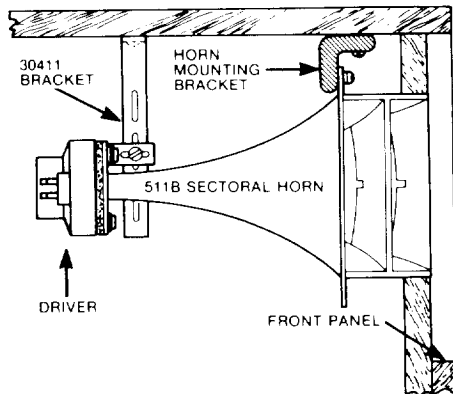

Figure 9. Internal Mounting of HF Horn
17. Complete Steps 8 through 10 as described, except reverse horn location to internal position as shown in Figure 9. Remove only enough fiberglass insulation from cabinet wall to permit securing 30411 bracket with wood screw.